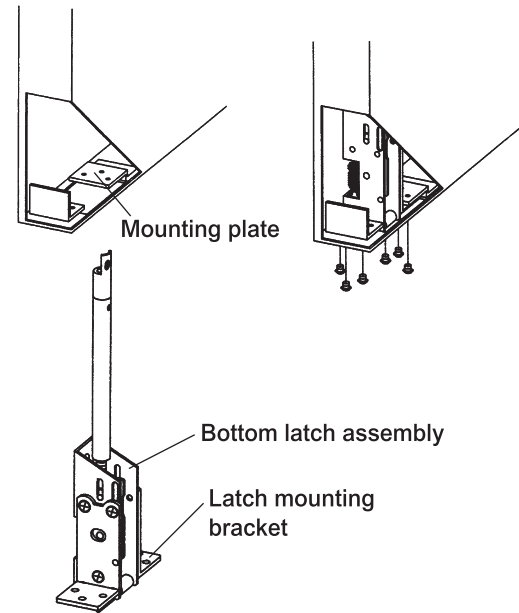

Figure 3-2
2. Insert bottom latch assembly into bottom of the door and fasten bottom latch mounting brackets on the mounting plates at bottom of the door. (See Figure 3-2.)